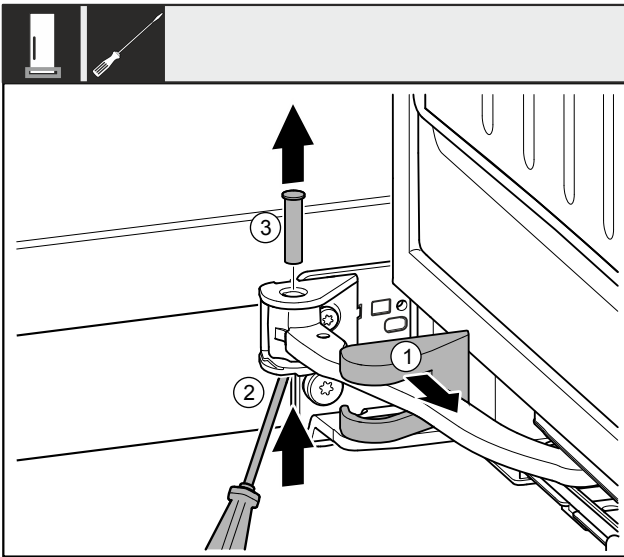

Fig. 7
- ▶ Pull off the swap bearing block cover Fig. 7 (1) and slide it along the joint.
- ▶ Use the screwdriver to lift the pin Fig. 7 (2) from the bottom.
- ▶ Pull the pin Fig. 7 (3) out from the top.